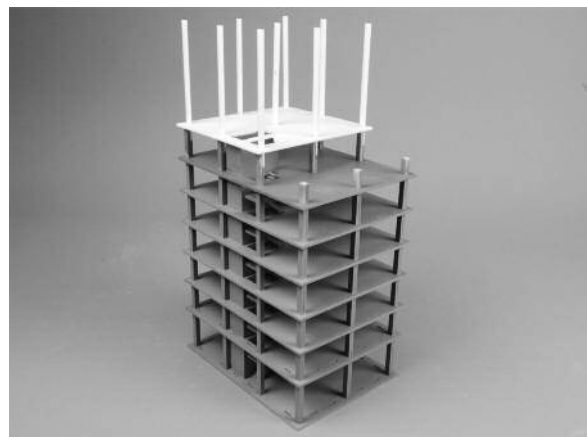

Figure 16
Slide a floor part (E) down the columns and fit in place. Be sure that all the tabs and slots are fitted properly. Glue in place. See Figure 16.